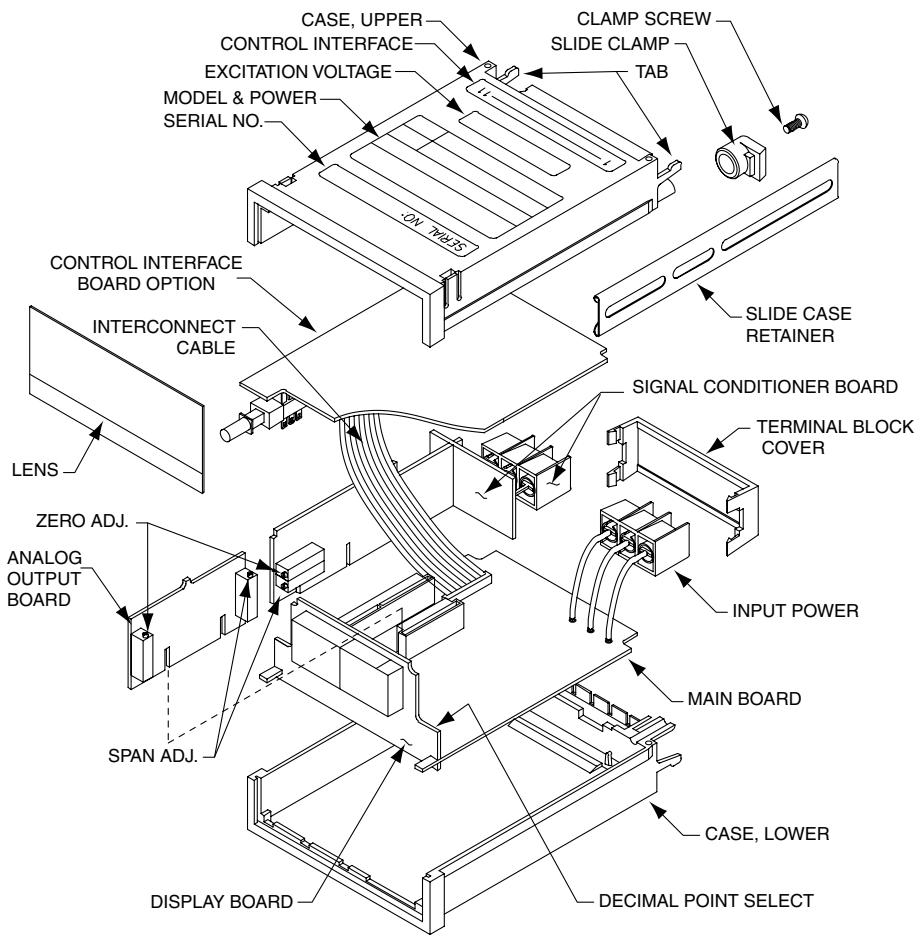

Figure 3 Exploded View
10.1 PANEL MOUNTING PROCEDURE (SEE FIGURE 3)